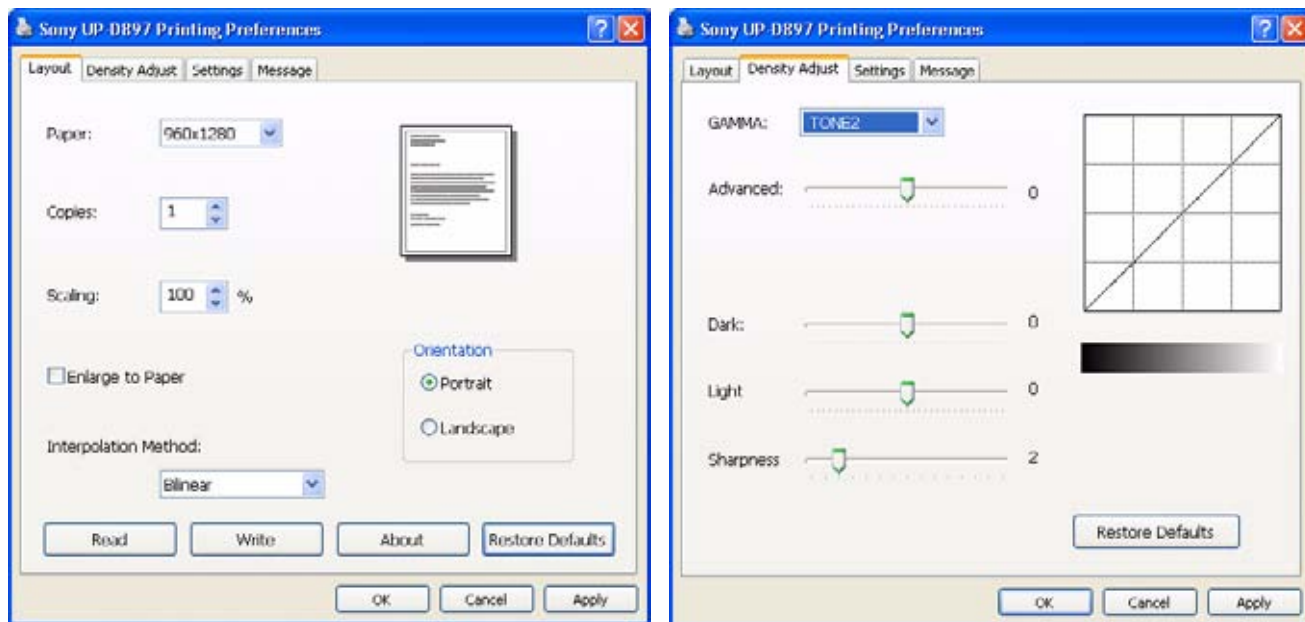

Figure 3-48 Layout + Density Adjust page
- 2.) Select the LAYOUT page (see: Figure 3-48 below) and select:
- 3.) Select the DENSITY ADJUST page (see: Figure 3-48 above) and select: